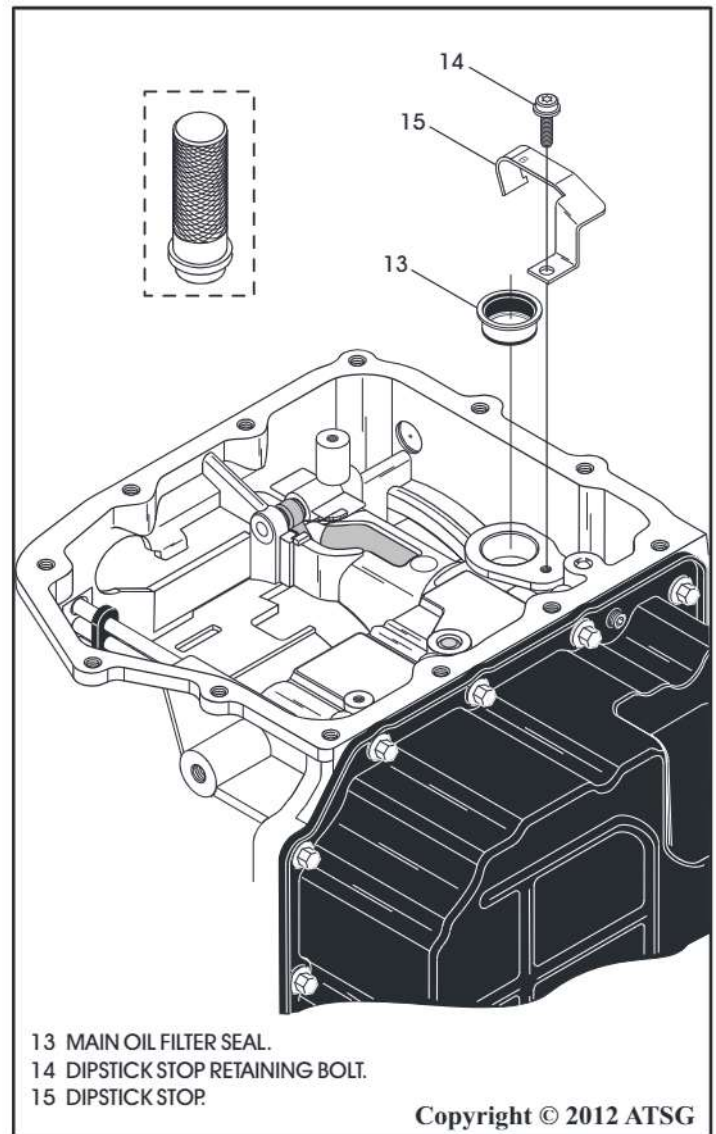

Figure 286
96. Install a new main filter seal into the case bore, as shown in Figure 286, using the proper driver.
97. Install the dipstick stop into the case, as shown Figure 286.